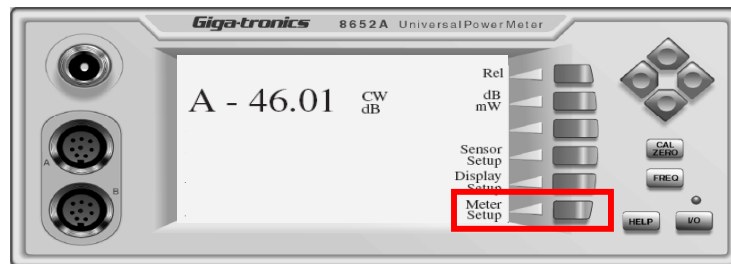

Figure 4: Setup meter
2. Press the “Meter Setup” softkey. See figure 4.